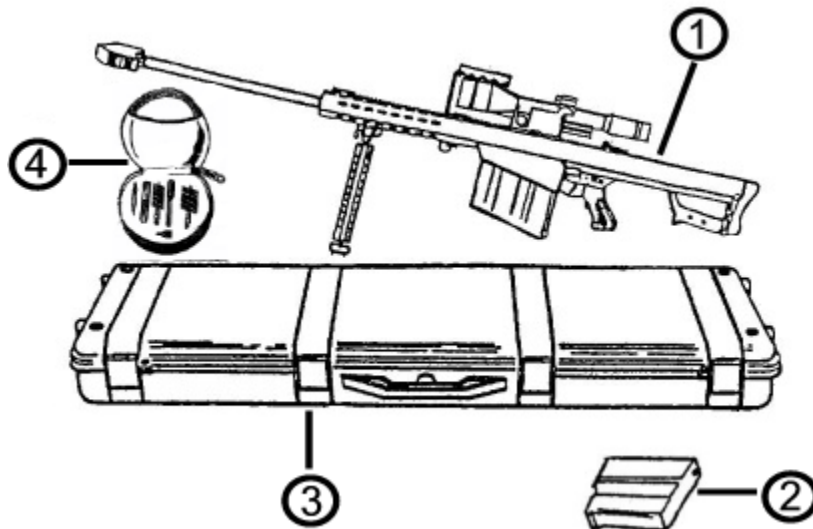

Figure 1-3. The M82A1 Rifle System
1.2.3 ASSOCIATED EQUIPMENT. The M82A1 Rifle (Figure 1-3) is comprised of M82A1 Rifle (1), Magazine (2), Airtight, Watertight case (3), and Cleaning Kit (4). Telescopic sights, shooting mats, and spare magazines are optional accessories.